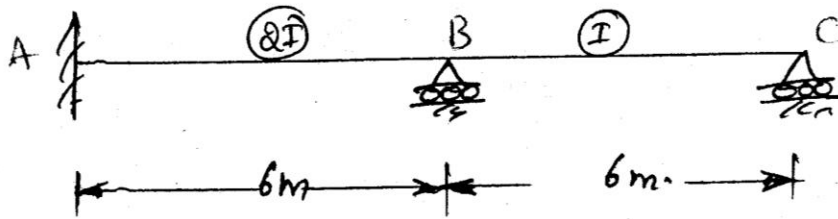

Figure-4
9. Analyse the beam as shown in figure -4 and draw the bending moment diagram, if support 'B' yields by 10 mm. Take $E = 15 \text{ kN/mm}^2$ and $I = 0.4 \times 10^9 \text{ mm}^4$.